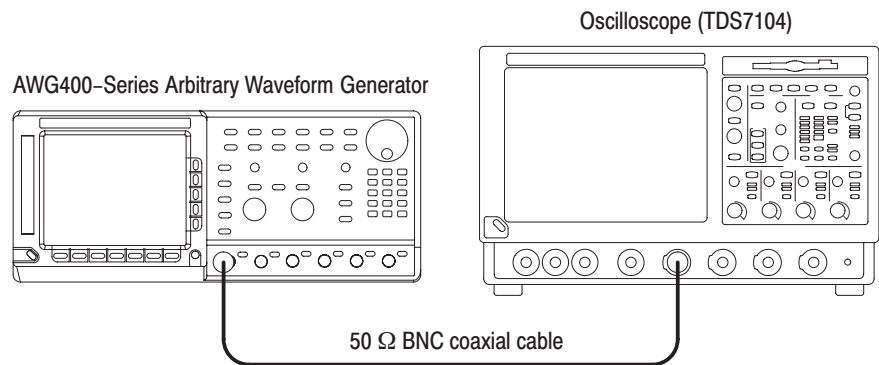

Figure 4–22: Step response initial test hookup
- a. Use the 50 Ω BNC coaxial cable to connect the AWG400-Series CH1 output connector to the oscilloscope CH1 input connector (see Figure 4–22).